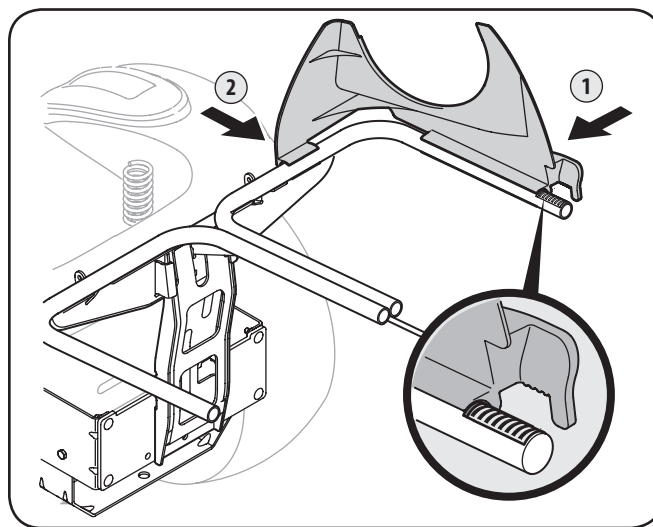

Figure 4-11
1. Snap the plastic upper chute support in place by first clipping the side portion onto the bagger support rail with the edge of the snap feature aligned with the red line, as seen in Fig. 4-11.
2. Snap the front side of the chute support to the rail, as shown in the inset of Fig. 4-11.